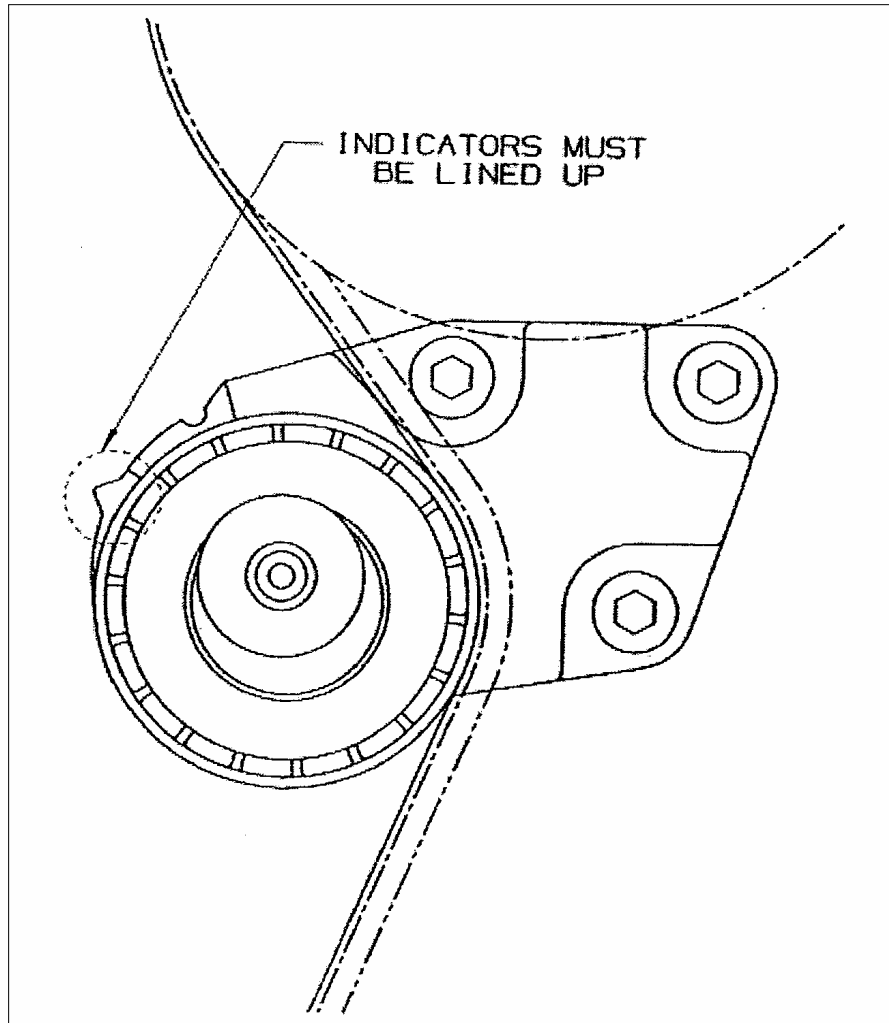

Figure 7: Verification of the alignment of the Tensioner's Movable Indicator with the Stationary Indicator
- If the Moving Indicator aligns with the Stationary Indicator, the installation is complete (See Figure 7).